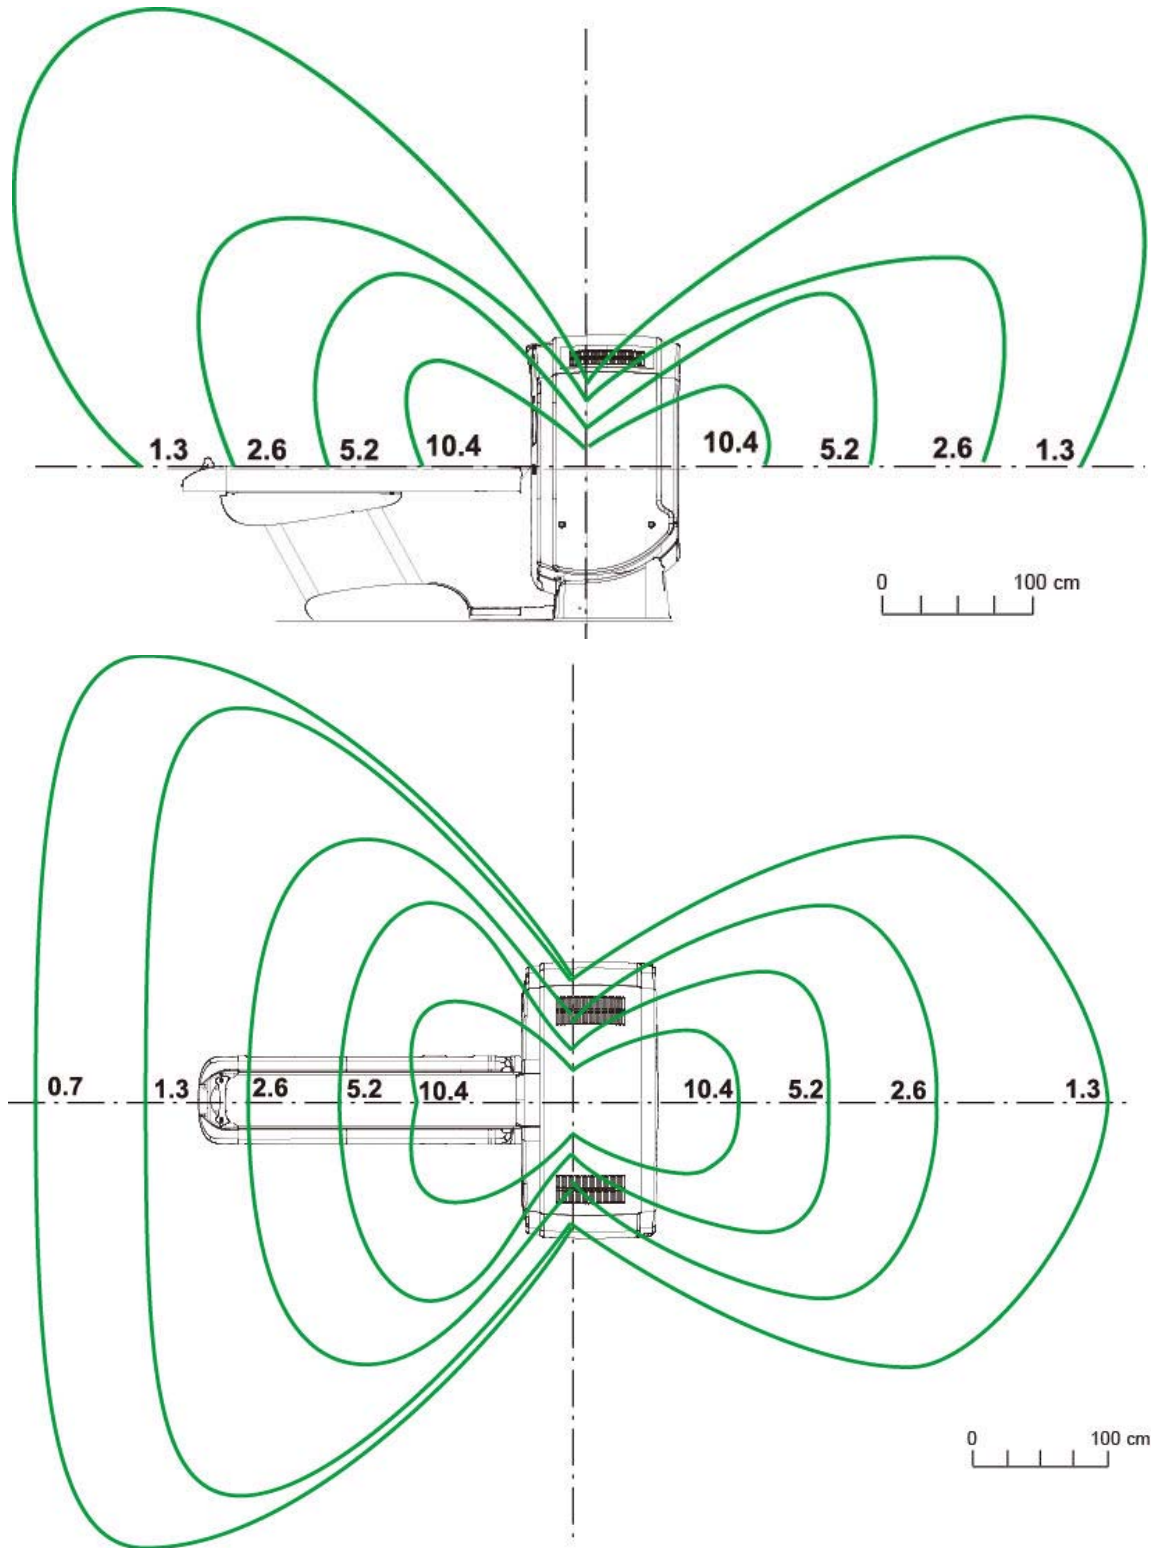

Figure 10-1 Typical Scatter Survey (Large Filter)
- Scatter radiation levels within the scanning room (see Figure 10-1).
Example (from Figure 10-1): The exposure level for a 120 kV, 800 mA, 1 sec. scan at 1270 mm (50 in.) away from the scan plane is: $10.4 \mu\text{Gy} \times 0.71 \times 800/100 = 59.2 \mu\text{Gy}$.